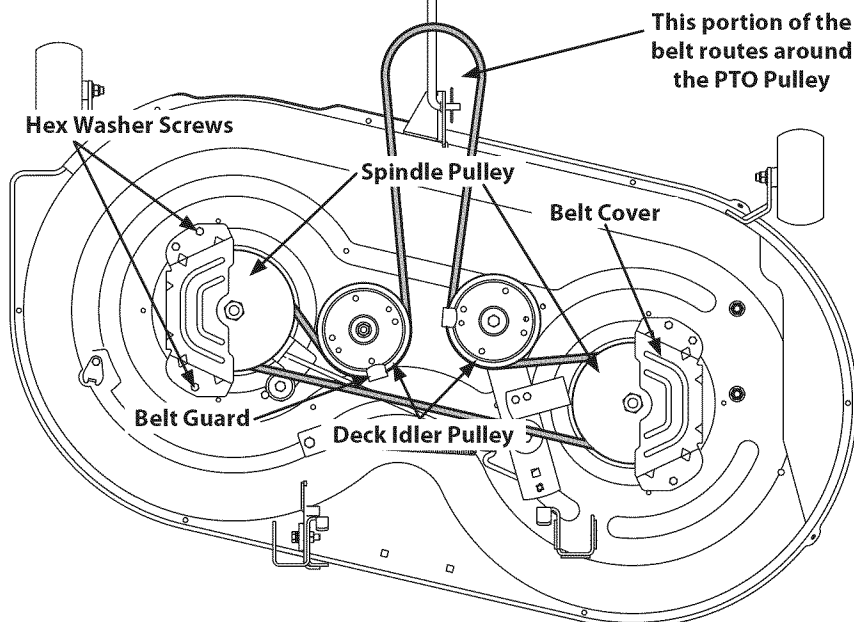

Figure 21
1. Remove the belt covers from the spindle pulleys by removing the hex screws that fasten the covers to the deck. See Figure 21.
3. Carefully remove the deck belt from around the two spindle pulleys and the two deck idler pulleys. See Figure 21.
4. To place the new belt, begin by routing the belt around the two outer spindle pulleys as shown in Figure 21.
5. Then route the belt around the two deck idler pulleys as shown in Figure 21.
8. Re-install the deck, making sure the belt remains routed around the pulleys as instructed. The complete belt routing is shown in Figure 21.